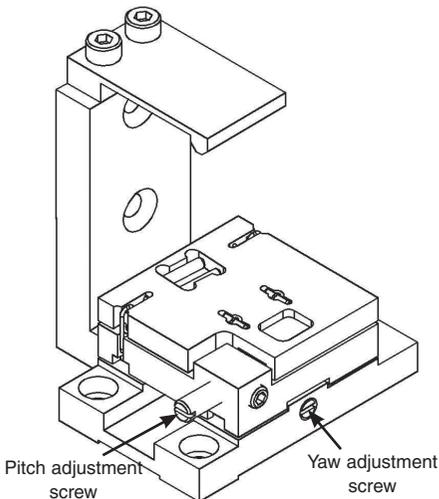

Figure 6: adjustable mirror mount
- Attach the adjustable mirror mount (see Figure 6) to the stage using 3 of the M2.5 screws provided. The screws should be torqued to 0.7 Nm.
- Visually align the mirror yaw, using the yaw adjustment screw located on the side of the mount (see Figure 6) so the return beam is in line with the centre of the alignment target aperture (mirror is perpendicular to the X-Y plane).
- Visually align the mirror pitch, using the adjustment screw located on the side of the adjustable mirror mount (see Figure 6) so the return beam goes through the centre of the alignment target aperture (mirror surface is now perpendicular to the X-Y plane).